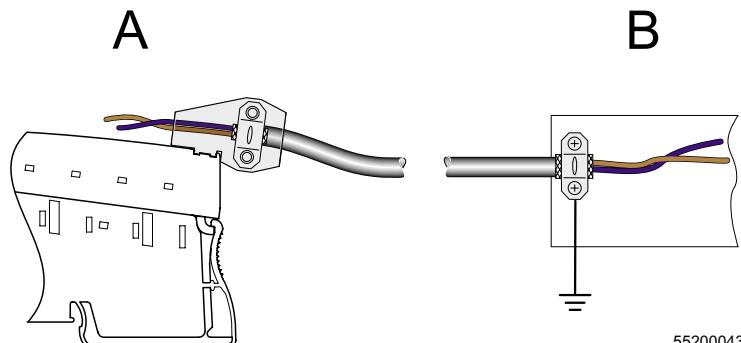

Figure 5 Connection of analog sensors, signal cables
**Always** connect analog sensors using twisted and shielded cables (see Figure 5).
- 1 If **one** multi-wire cable is used to connect both sensors, connect the shielding as described above using the shield connector (see Figure 5).